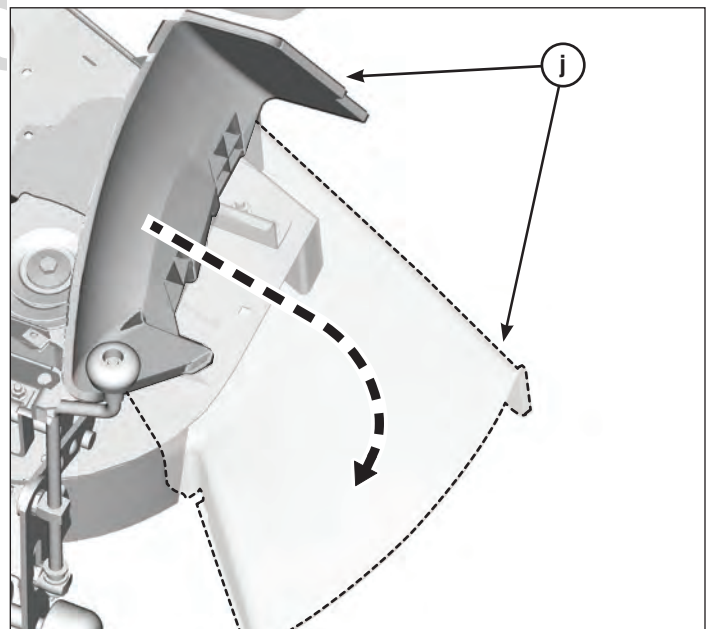

Figure 37
10. Rotate deflector (j, Figure 37) to down position.